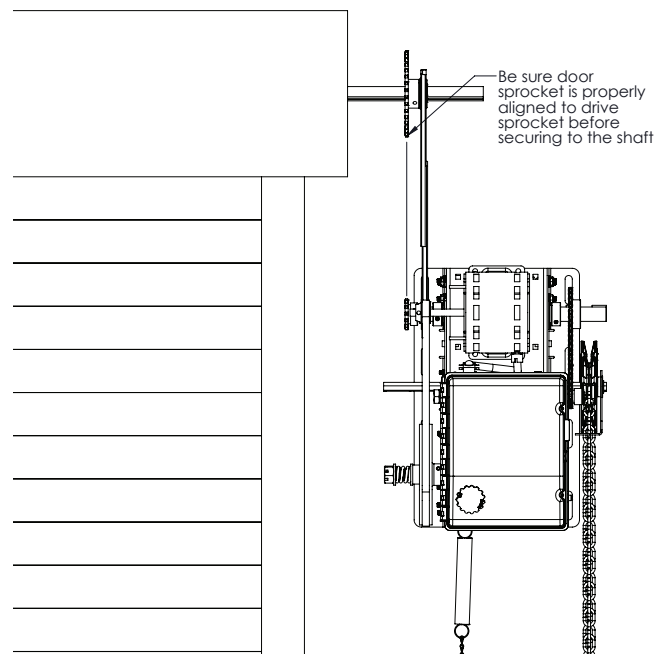

FIGURE 3
- G Align the door sprocket to the operator drive sprocket (Figure 3), insert the key, and secure with BOTH set screws.